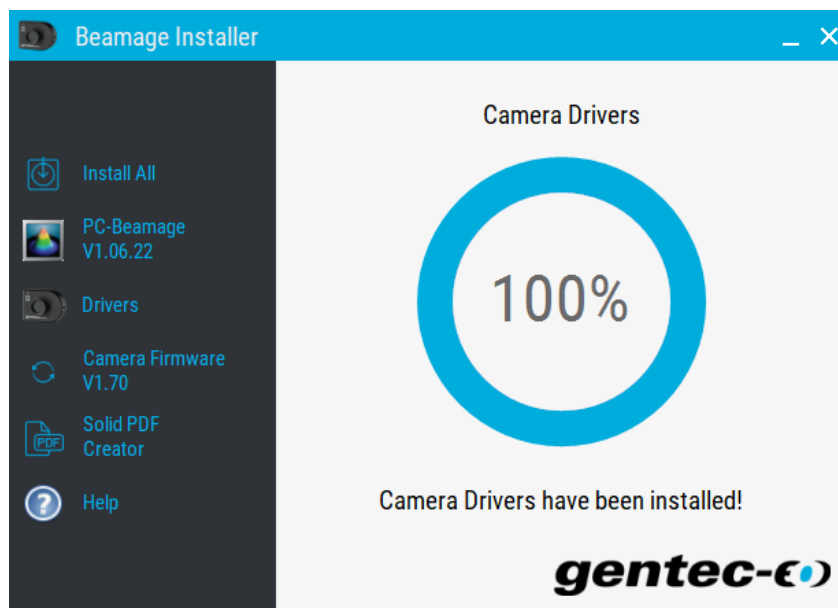

Figure D-3 Camera Drivers
- 3) Download and run the *Beamage Installer*. The latest version can be downloaded from the following web page: <https://www.gentec-eo.com/resources/download-center>. See Figure D-3.
- 4) Click on the “Drivers” button and wait the driver installation done, see **Figure D-3**